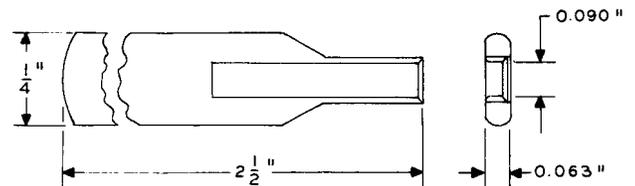

Fig. 11—655B Buildup Remover Tool
2.13 **655B:** The 655B buildup remover tool (Fig. 11) is used in removing buildups on contacts of wire-spring type relays. It replaces the 655A buildup remover tool.